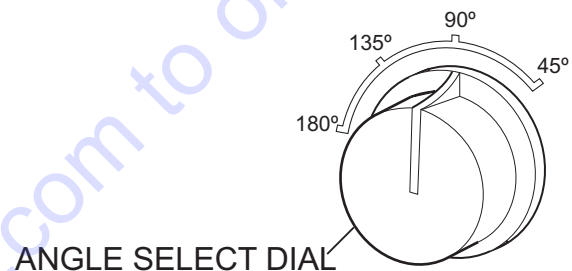
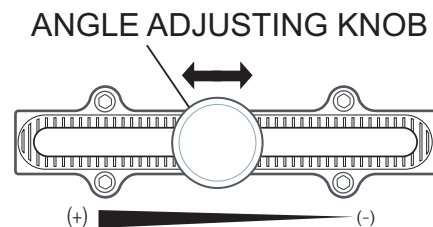

Figure 4. Selecting the Bending Angle
Figure 5. Fine Tuning the Bending Angle
8. Rotate the Angle Select Dial to the desired angle that the rebar is to be bent (Figure 4). If the selected angle cannot be obtained by the Angle Select Dial, "fine tune" the angle by using the Angle Adjusting Knob (Figure 5).